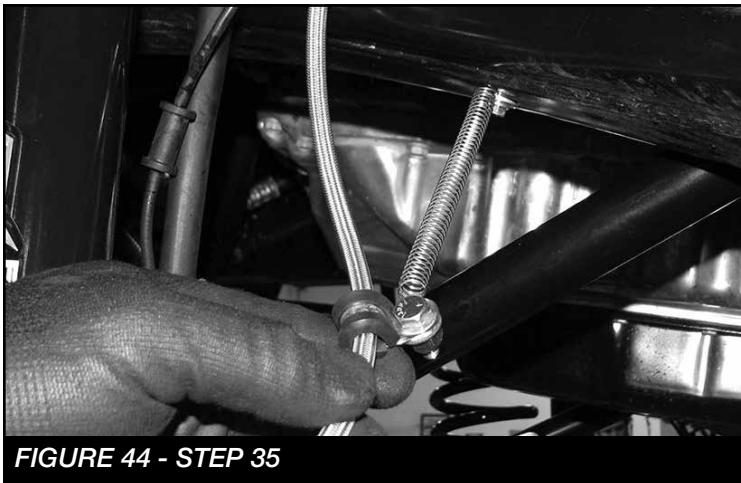

FIGURE 44 - STEP 35
36. Mount the opposite end of the spring to the frame using the supplied TEK screw and washer. **SEE FIGURE 44**